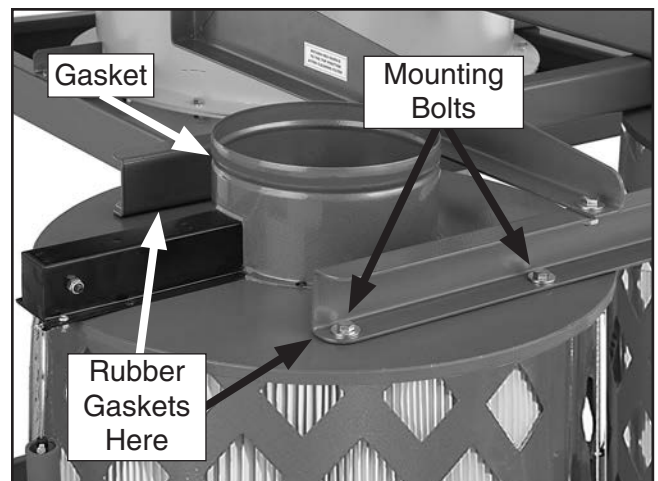

Figure 34. Canister filters mounted to the long support braces.
34. With assistance, position the rubber mounting gaskets between the filter canisters and the long brace supports, and secure the canisters with (8) $\frac{5}{16}$ "-18 x $\frac{3}{4}$ " hex bolts and (8) $\frac{5}{16}$ " fender washers (see **Figure 34**).